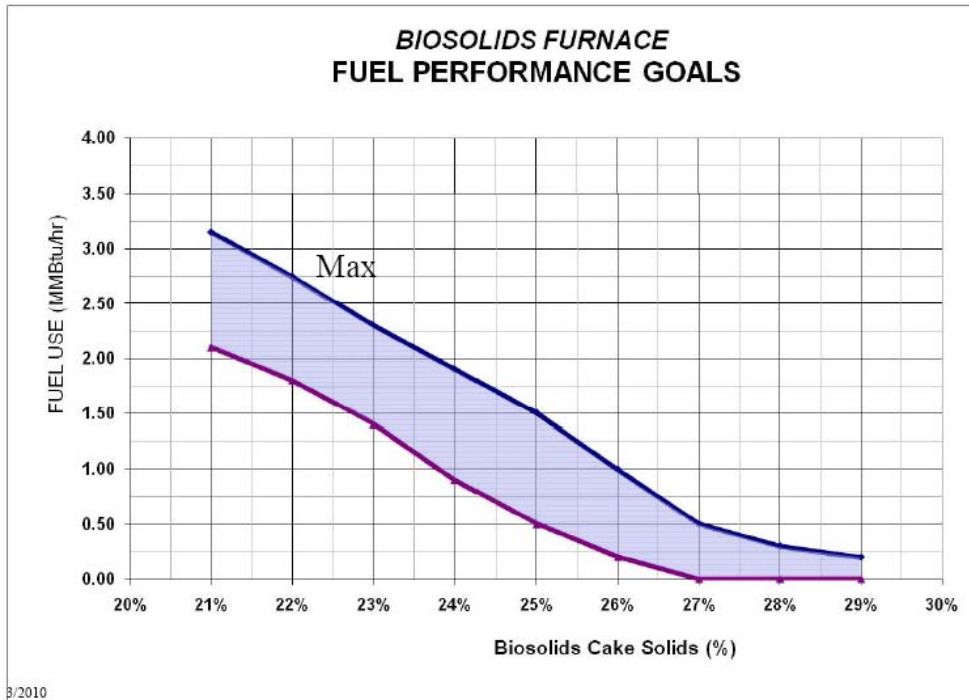

Figure 2
- An example that is already built is the fuel usage KPI. FALCONEER built the predicted fuel feed calculation base on the cake % solid provided by the design chart. This calculation can help operators watch how much fuel they need to use in real-time to operate the incinerators. At the same time, FALCONEER also provides second calculation comparing this predicted fuel feed with actual fuel feed. If the difference between these two values is big enough (more than 5 therms/hr or about \$5/hr cost savings), an intelligent statistical process control alarm will flag to notify operators to cut back fuel to maintain or achieve fuel savings (See Figure 2)